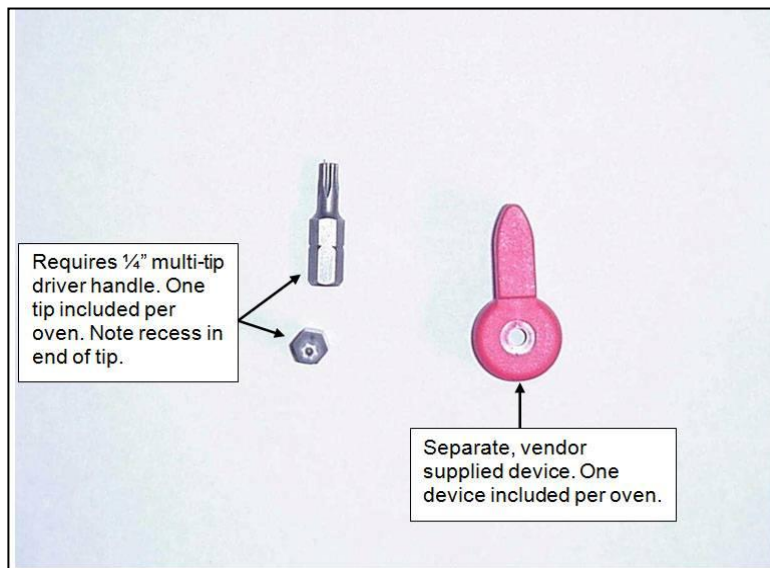

Figure 5. Door Lock Manual Override Key (LCC/LCD/LLC/LLD).
- Check the door and latch for smooth operation (Figure 5)